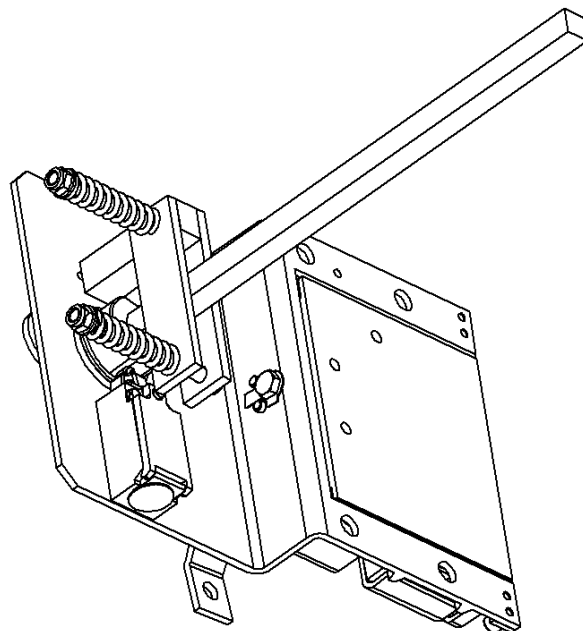

Figure 19: Final layout of the OMRON contact.
Steering mechanisms T25v2 and T-25 UD enable the option to fit the safety contact in the best position available for the installer. It may be located at the top or bottom of the lower bracket (1), as this part has holes for this purpose. Please remember that, if the steering mechanism incorporates a tensing device see Figure 19, the contact (28) and the tensing device can be jointly assembled, fitted according to the installer's choice, one at the bottom and the other at the top.